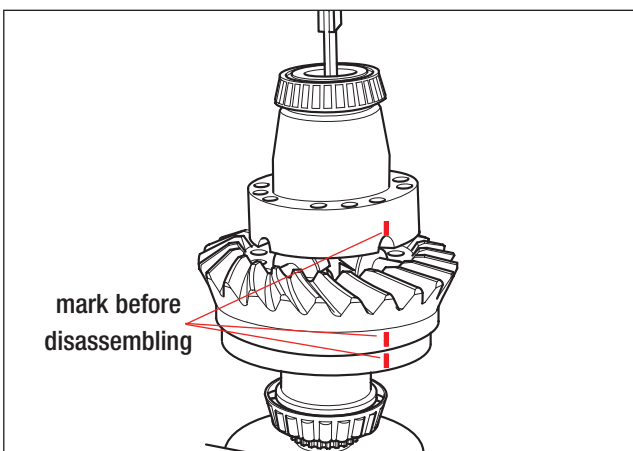

Fig. 2.32
3. Lift off the differential case half using service tool CT21. (tool no. 9934244) (Fig.2.32)